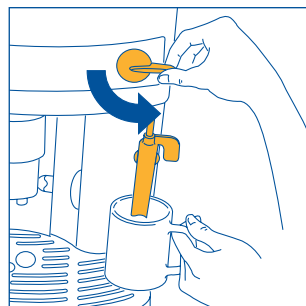
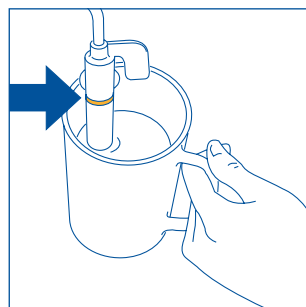

Fig.23
Fig.24
- Dip the cappuccino frother into the into the container with milk (fig. 23), taking care not to immerse the raised line on the cappuccino frother (indicated by the arrow in fig. 24). Turn the steam knob a half turn counter-clockwise as far as it will go (take care to avoid scalds). Steam is discharged from the cappuccino maker, giving the milk a creamy frothy appearance. To obtain a creamier froth, dip the cappuccino frother into the milk and rotate the container with slow movements from the bottom upwards. (You should not discharge steam for more than two minutes at a time).